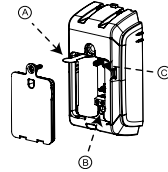

Figure 1: Enrollment options
3. Remove the pull tab to start the auto-enrollment process. See A in Figure 1.
- Note:** If the device does not automatically enroll, you can either press the enrollment button, press the tamper restore, or enter the device identification number in the panel. See B in Figure 1 for the enrollment button and C in Figure 1 for the tamper restore.